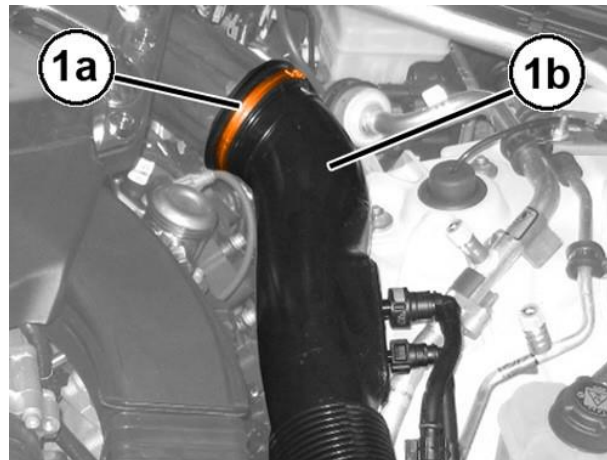

Figure 48 – Air Cleaner Outlet Tube
33. Loosen the clamp (1a) and disconnect the outlet tube (1b) from the air cleaner (Figure 48).